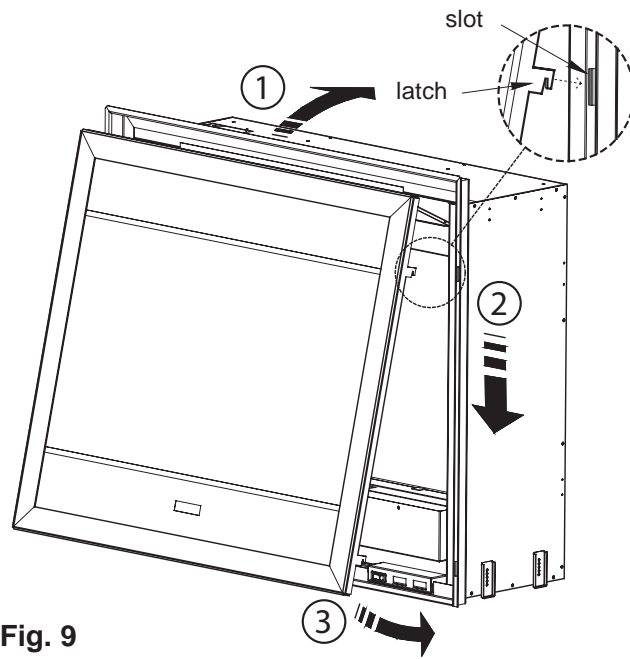

Fig. 9
1. Tilt the Front Cover at a slight angle, insert the top two latches into the top two slots – see **Fig. 9**.